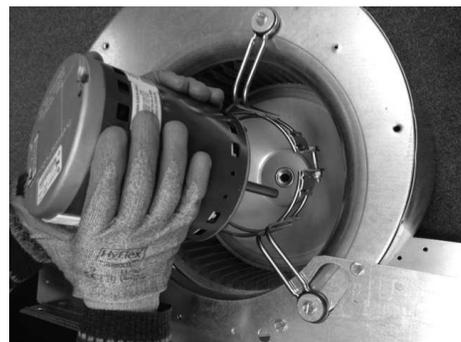

Figure 20
5. Remove motor. Install new motor (Fig. 20), tighten motor mount bolt, then locate fan wheel and tighten shaft set screw.